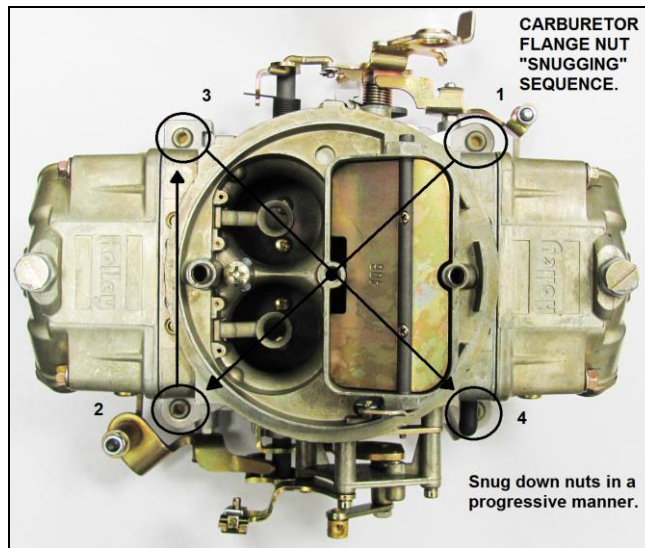

Figure 3
11. Install the carburetor holddown nuts and snug nuts progressively in a “criss-cross pattern” (Fig. 3). Tighten each nut twice. **WARNING:** Over-tightening may result in warped or cracked throttle bodies and/or binding throttle action resulting in an unstable return-to-idle.